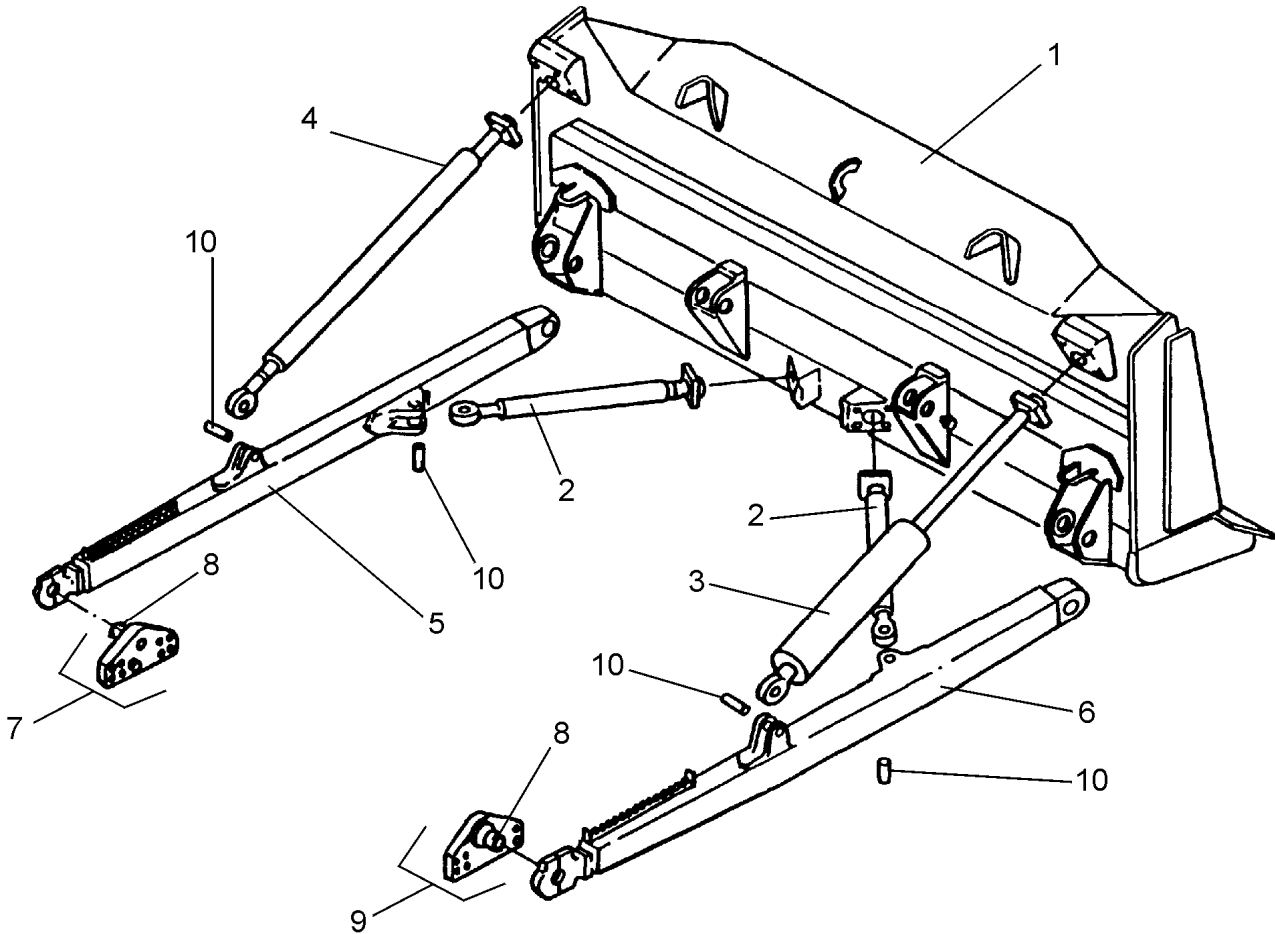

Fig. 17.1. Exploded View of Blade, Push Arms and Struts
1. Lower the blade (1, Fig. 17.1) to the ground and install a block under the front portion of push arms (5 and 6). Attach a hoist to the blade lifting eye and take up the slack.
3. Install blocks under diagonal struts (2, Fig. 17.1) and remove the bolts securing the strut cap to blade socket.
1. Lower the blade (1, Fig. 17.1) to the ground and install blocks under the rear end of the push arms (5 and 6)
3. Install blocks under the diagonal strut. Disconnect strut (2, Fig. 17.1) from the push arm by removing the pin locking hardware and drive out the mounting pin.
4. Position the eye of the diagonal strut (2, Fig. 17.1) in the bracket on the side of the push arm so that the pin holes are aligned. Insert the mounting pin through the bracket, aligning the lock holes. Secure the pin with the locking hardware.
1. Disconnect the diagonal strut (2, Fig. 17.1) from the push arm (5 or 6) by removing the pin locking hardware and drive out the mounting pin.